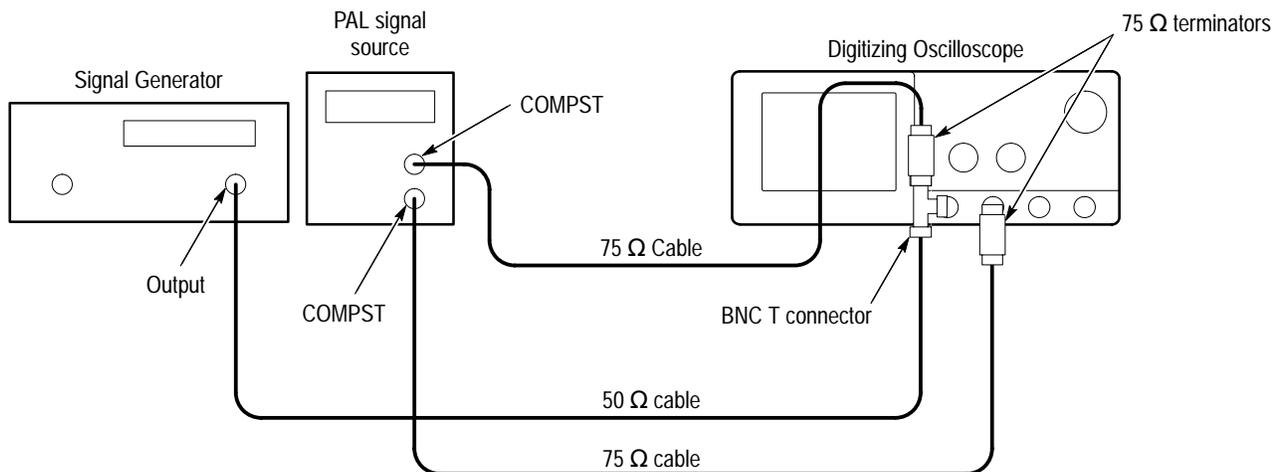

Figure 4–33: Subsequent 60 Hz Rejection test hookup
- Connect another composite signal connector of the PAL signal source (labeled **COMPST** on the TSG 121) through a 75  $\Omega$  cable and a 75  $\Omega$  terminator to the CH2 input. See Figure 4–33.
- CONFIRM that the **TRIG'D** LED stays lighted and that the waveform on screen is stable. In other words, be sure the waveform does not move horizontally or vertically. Also, confirm that the waveform on the screen has one positive pulse and a number of negative pulses. See Figure 4–34.